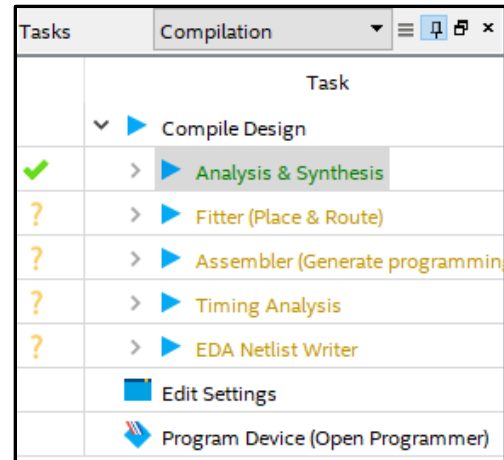

Figure 6: Completed Functional Compile
- To functionally compile your design, double click the “Analysis & Synthesis” in the Compilation window shown in Figure 6 or select the symbol . Figure 6 shows the result of the Functional Compiling.